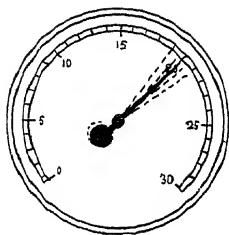

Fig. 24.—GENERAL IGNITION TEST
14. General Ignition Tests (Fig. 24)